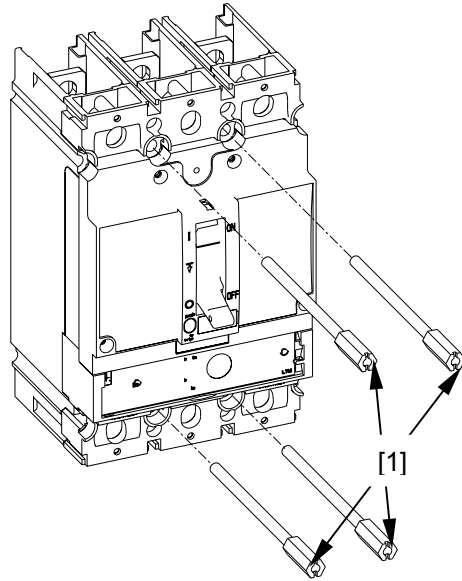

Figure 3. Mounting the breaker in the enclosure.
2. Mount the breaker to the enclosure with #10-32 X 3 5/32" screws [1], as illustrated in Figure 3. Tighten the screws to 27 - 32 in-lb. Complete the installation of the circuit breaker according to installation instructions **DEH40360**.